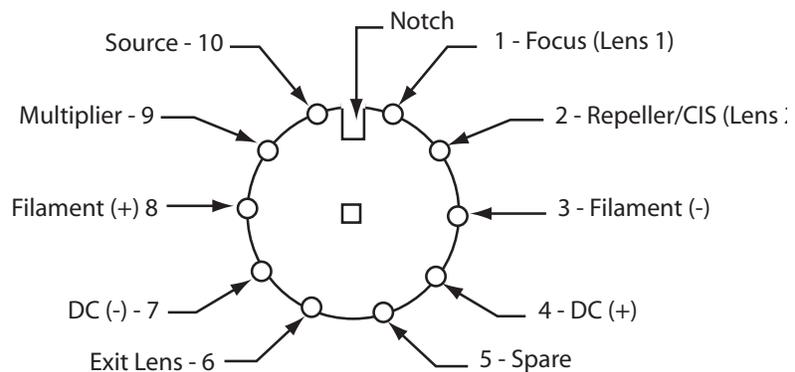

Figure 4-6.
1. Install the source so that Lens 2 is seated against the ceramic quadrupole collar. The hardware binding the source together may need to be loosened temporarily so that all the rods can fit through the ceramic quadrupole collar holes, and so that Lens 2 can sit against the collar. Carefully insert the rods through the holes in the ceramic collar and into the barrel connectors and the detector flange assembly according the pinout in Figure 4-6. Be sure that the screws are tightened snugly to the hardware once the source is in place.